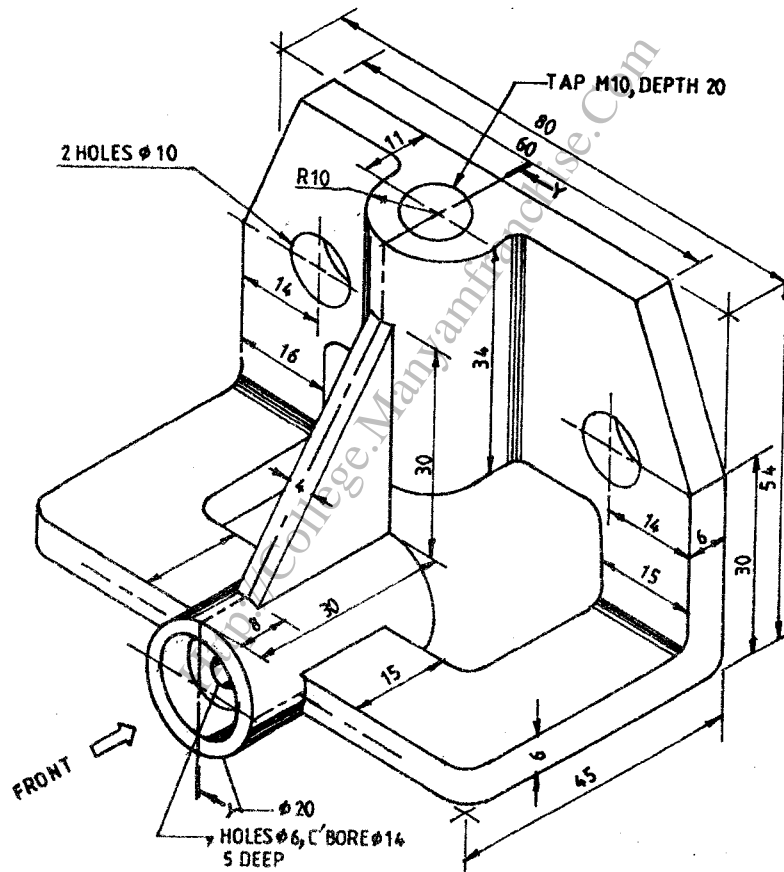

Figure 1
1. Figure 1 shows an isometric drawing of a gear bracket. Draw the following views in 3rd angle projection: